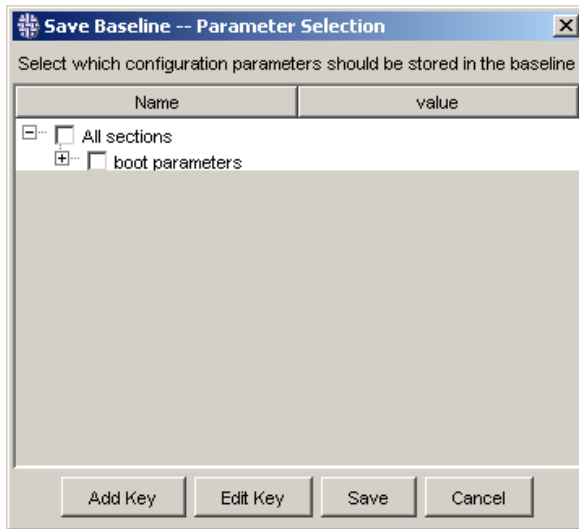

Figure 131 Parameter Selection dialog box
3. Add or remove section tags to include or remove sections from the configuration file to the template. Each section appears in the configuration file as text in [square brackets]. For example, to add the [Boot Parameters] section of the configuration file to the template, you can use the Boot Parameters value attribute in a section tag. The Boot Parameter text attribute identifies the check box in the Save Baseline -- Parameter Selection dialog box (see Figure 131). This section tag includes a prefix tag to add parameters to the section.